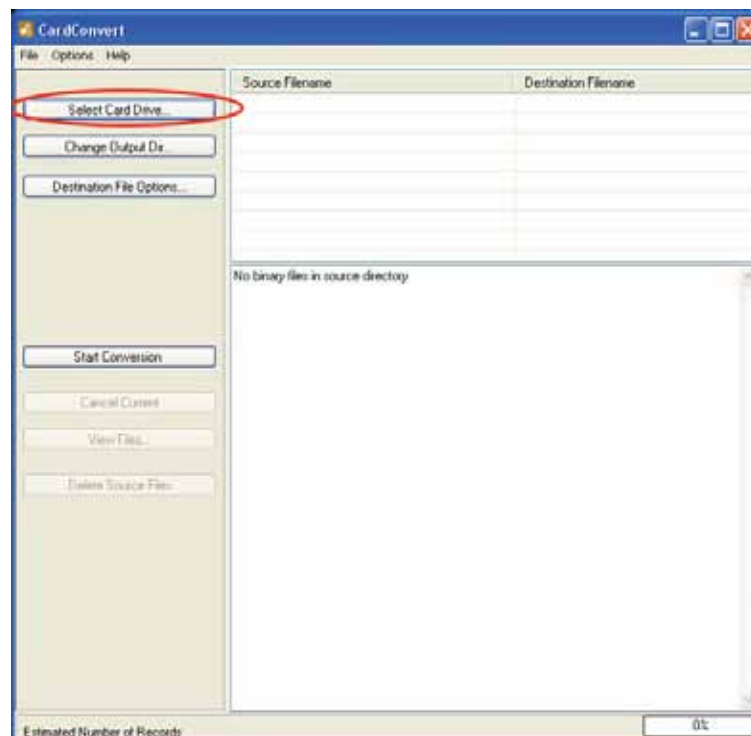

Figure 21. CardConvert window used for converting data logger memory card into a usable file.
- a) From the PC200W **Tools** menu, select **Card Convert**. This will open up the Card Convert Window (see Figure 21 on the next page).
- a) From the PC200W **Tools** menu, select **Card Convert**. This will open up the Card Convert Window (see Figure 21).